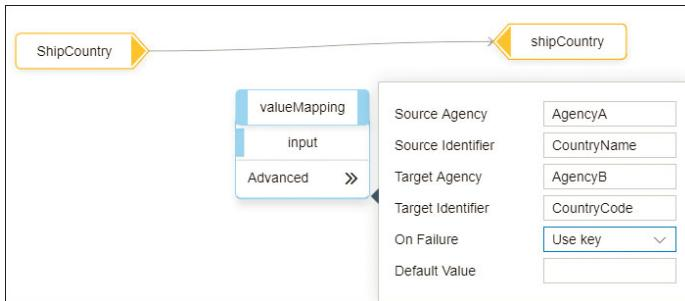

Figure 4.92 Configuring the Value Mapping Function
5. Place the **valueMapping** function on the screen. For the input fields **Source Agency**, **Source Identifier**, **Target Agency**, and **Target Identifier**, use the same values as you specified earlier in Figure 4.89. At the end, the configuration should look like Figure 4.92.
By using the **Default Value** field in Figure 4.92, it's possible to specify a default value to be used if no matches are found for the incoming value. But for that to work, you'll need to set the **On Failure** dropdown option to **Use Default Value**.